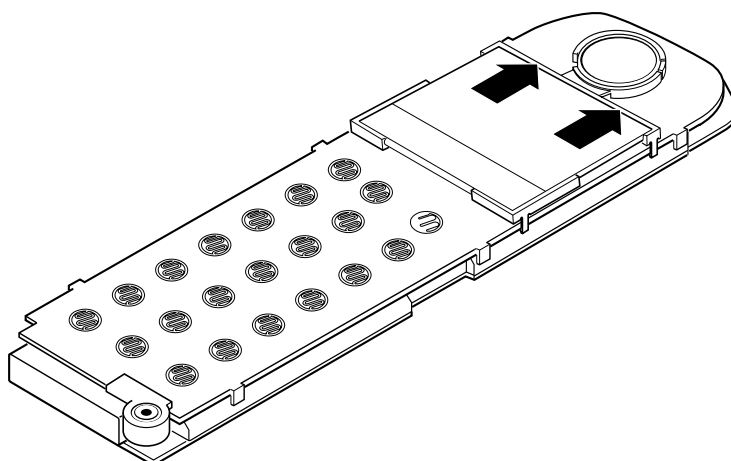

Figure 11: LCD removal (1)
- 11.(Figure 11) Gently push the two LCD locating lugs upwards to enable removal of the LCD assembly.